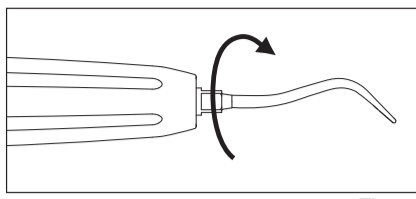
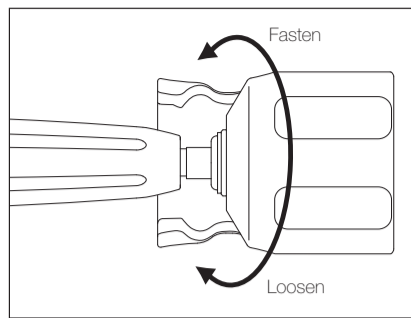

Fig. 3
Fig. 4
**Installation:** Screw in the tip until finger tight. (Fig.3) Mount the supplied wrench tool over the tip, and align the square holes to mate with counterpart on the tip. Turn the wrench firmly until two or three clicks are heard. (Fig.4) The clicking, or tripping, takes place when the turning force exceeds the preset value. This wrench fastens the tip at the preset consistent force at all times.
**Removal:** Mount the wrench over the tip and turn it in the direction as shown in Fig.4.